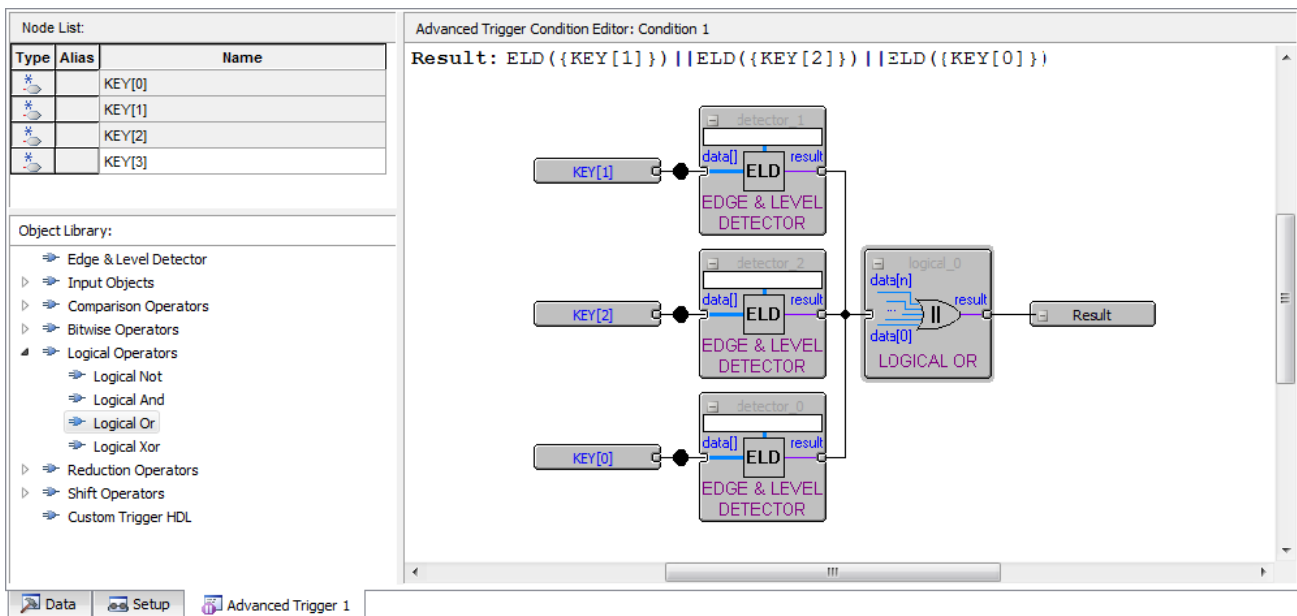

Figure 21. Arrange the elements to create a circuit that looks like this.
6. In the object library click Edge and Level Detector and drag this into the editing window. Do this three times and then arrange the circuit as in Figure 21. The three inputs should each be connected to the input of